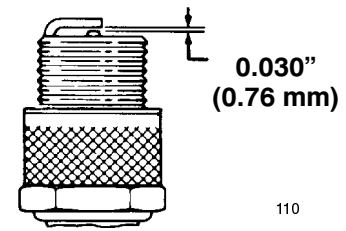

Figure 36
3. Set the air gap between the spark plug electrodes at 0.030 inch (0.76 mm) (Fig. 36).